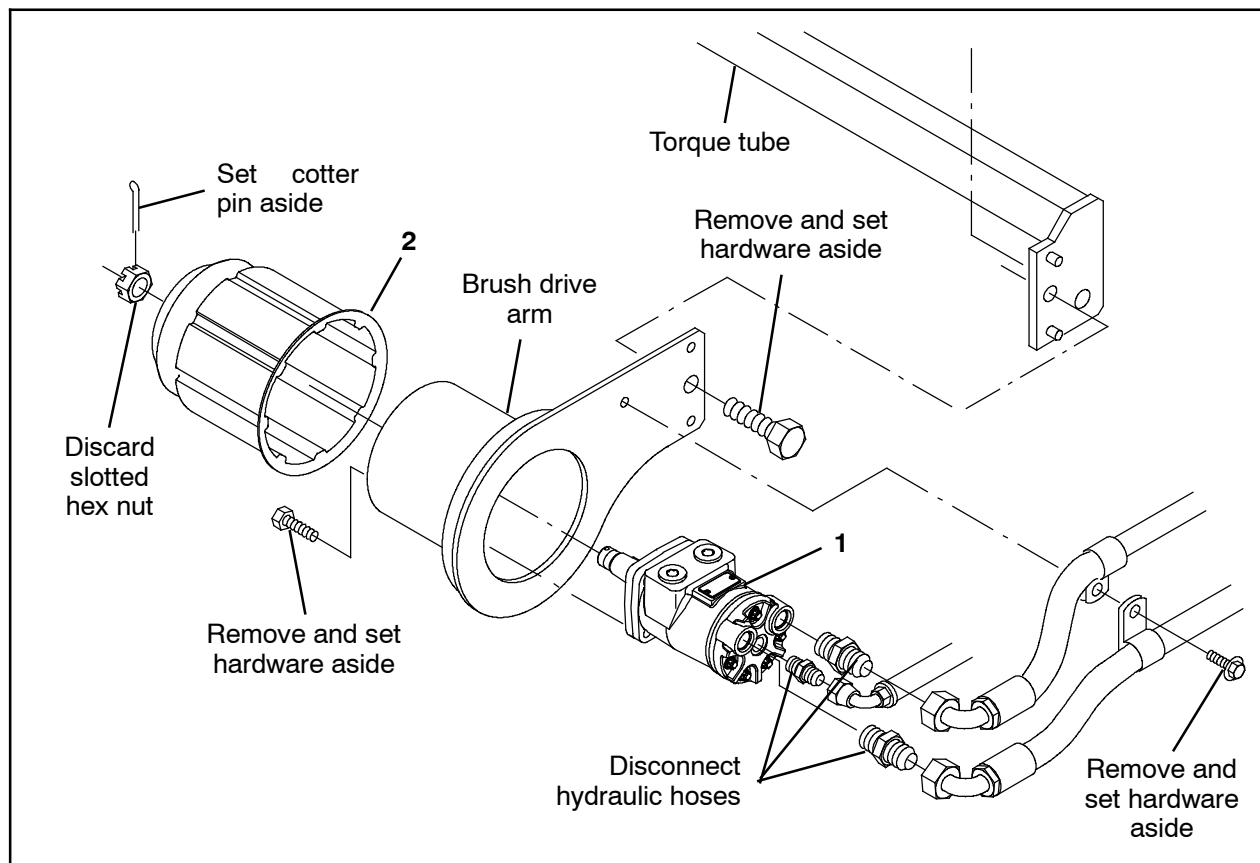
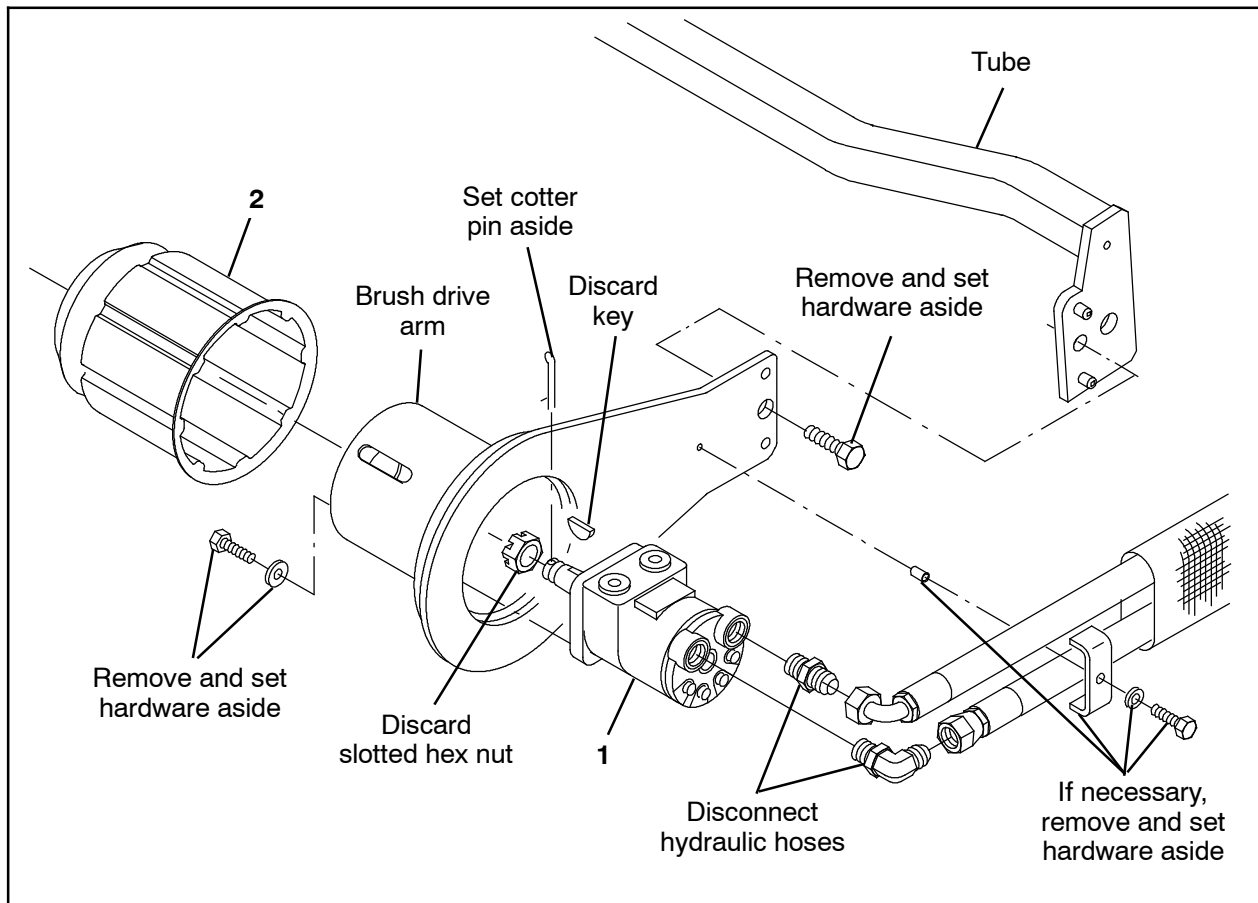
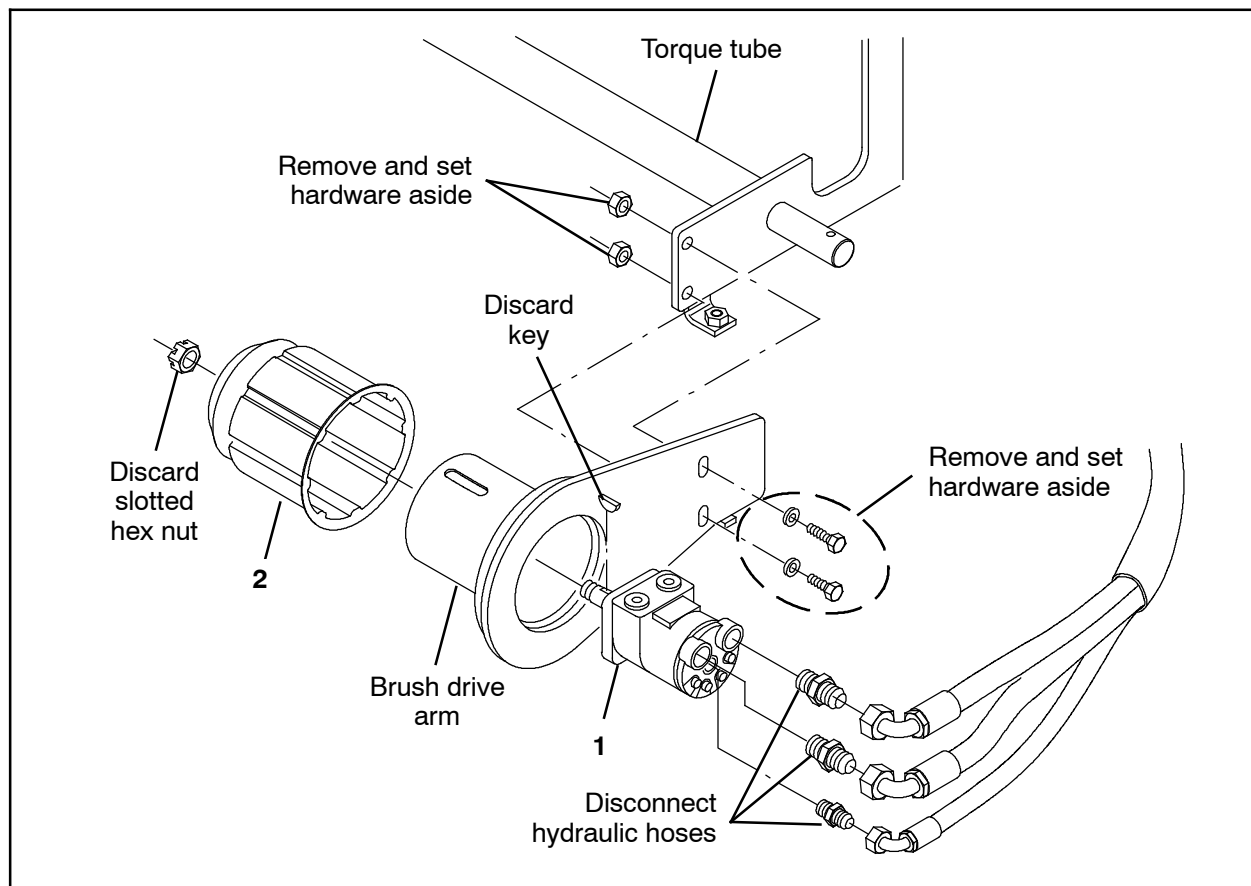

FIG. 1 - S20
FIG. 2 - S30
FIG. 3 - 800
NOTE: Refer to Fig. 1, Fig. 2, or Fig. 3 to install the brush drive motor (1) and Brush drive plug (2) onto the S20 / S30 / 800.
6. Install the new brush drive motor (1) onto the brush drive arm.
7. Install the key into slot on brush drive motor (1) shaft.
8. Install the brush drive plug (2) onto the brush drive motor (1) and brush drive arm.